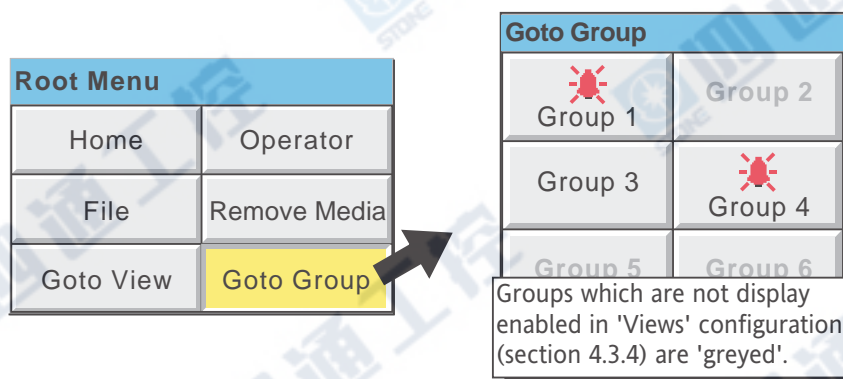

Figure 3.2.1b Root menu with Goto Group sub menu
**Goto Group** Allows a group to be selected for display. Groups which are not '**display enabled**' in the Config/Views page (section 4.3.4) are greyed. An alarm icon appears (as shown for groups 1 and 4, in figure 3.2.1b, below) for any group containing one or more points in alarm. The icon flashes if any of the group's alarms have not been acknowledged.